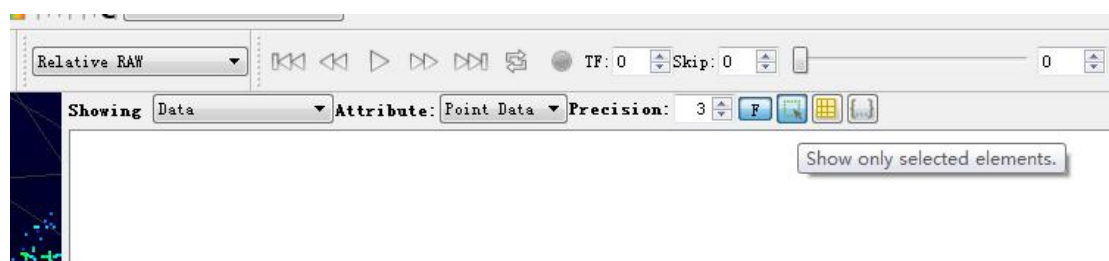

Fig C-10 RSView Show Only Selected Elements
7. Click **Show only selected elements** in the Spreadsheet (Fig C-10). Since no points are selected yet, the table will be empty.